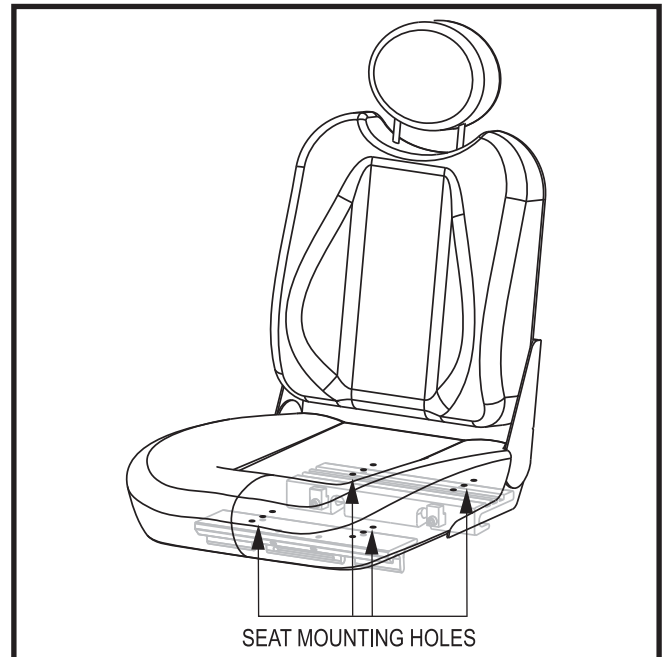

Figure 13. Seat Position Adjustment
6. Reposition the extrusions on a different set of mounting holes. You must move both extrusions the same number of holes either forward or rearward. **See figure 13.**